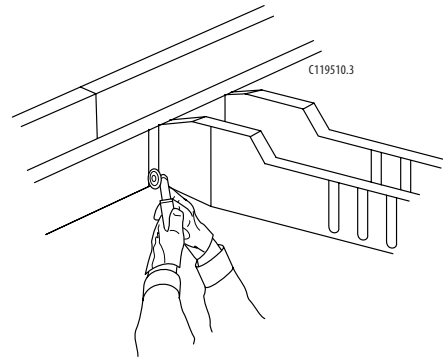

Figure 10-3:
2. Cut the service rail along the marked lines and discard the unused section (figure 10-3).